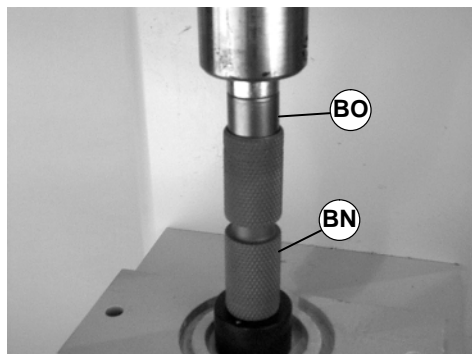

Figure 54
4. Press bearing (BO of Figure 54) into pulley (BN) until seated.